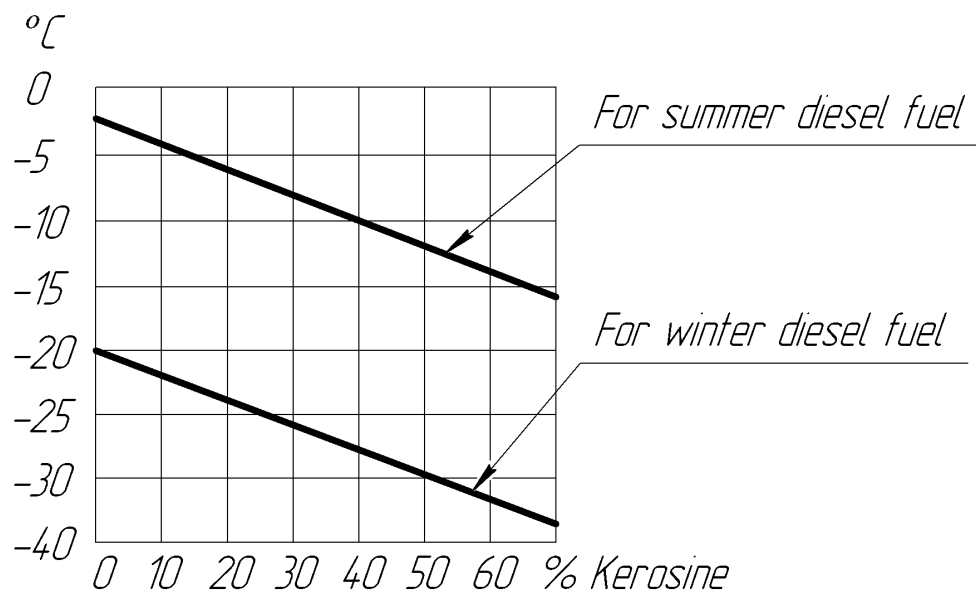

Figure 12 - Amount of kerosene mixed with diesel fuel, depending on the ambient temperature.
12.2. Reliable operation of heater depends on the type of fuel used. Type of fuel should be in accordance with GOST 305-82, depending on the ambient temperature (see Table 5). May be used and the mixture of fuel according to Figure 12.